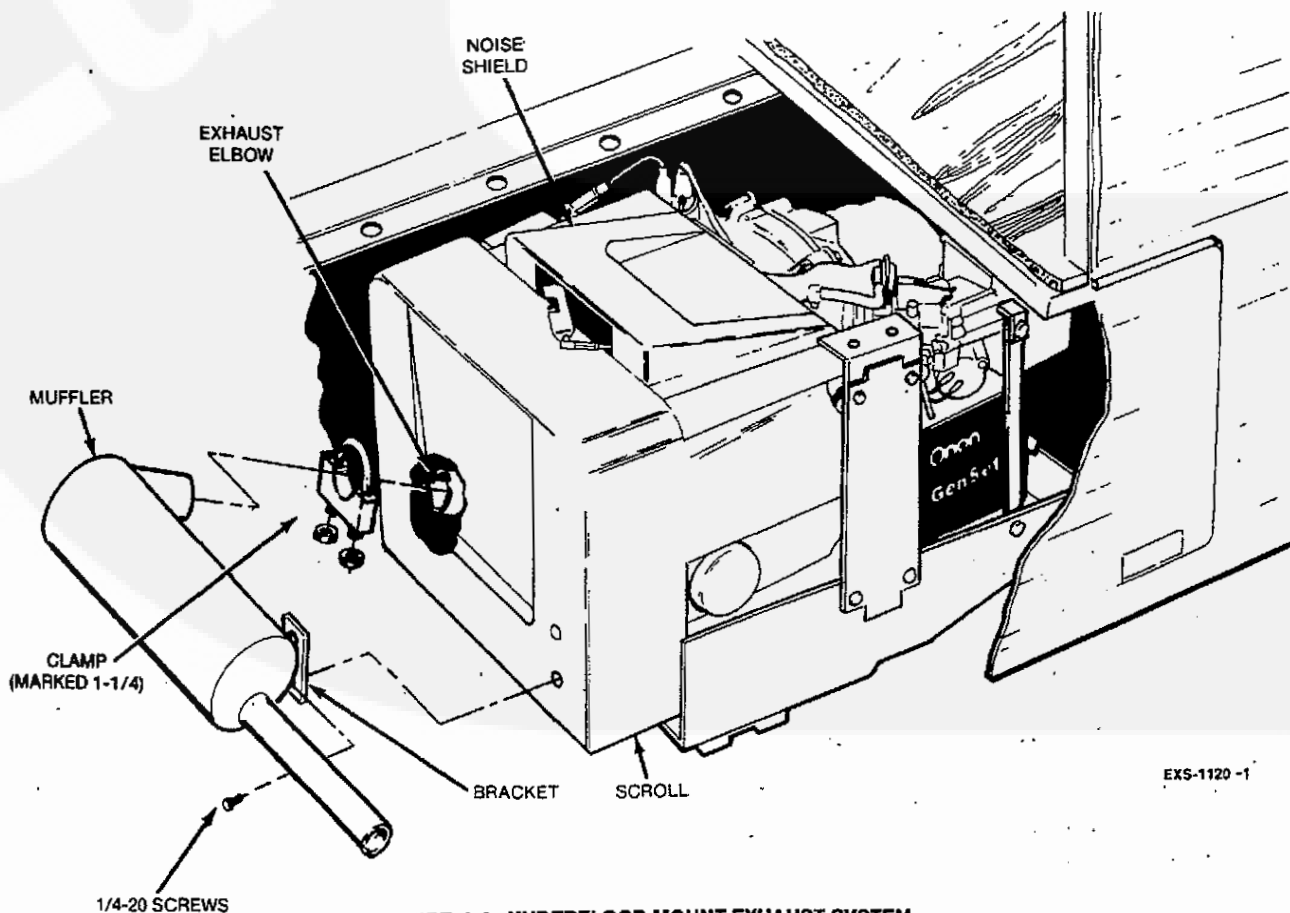

FIGURE 6-2. UNDERFLOOR MOUNT EXHAUST SYSTEM
Figure 6-1 shows a typical exhaust system for a compartment mount generator set. Figure 6-2 illustrates a typical exhaust system for an underfloor mount generator set. Separate service procedures cover each type of exhaust system. Also refer to the exhaust kit installation instructions.
1. Loosen the muffler clamp at the muffler inlet (see Figure 6-2) and remove the muffler support bracket screws.